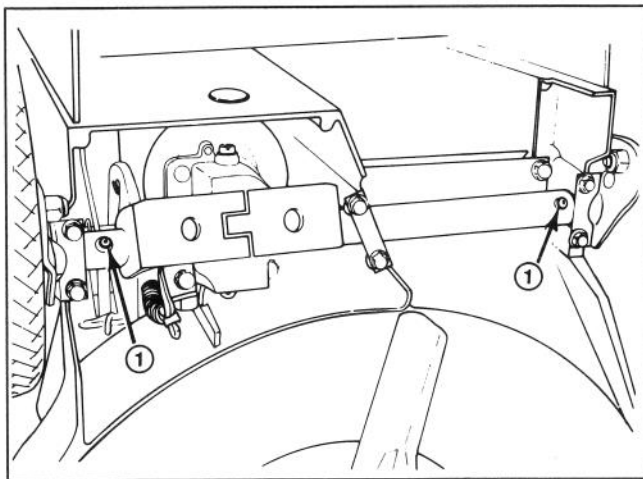

Figure 26
3. Set mower to highest height-of-cut setting (E).
4. Tip mower on its right side. Wipe grease fittings with clean rag (Fig. 26). Install grease gun onto fitting and gently apply two or three pumps of #2 Multi-Purpose Lithium Base Grease.